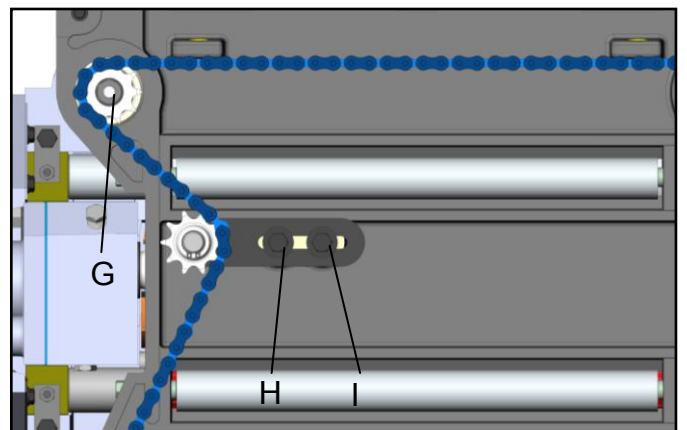

Fig. 28
2. If cutterhead is not parallel to table, tilt planer on its side, Fig. 28. Remove bolt (H) and loosen bolt (I), which will allow you to move the idler sprocket far enough to release tension on the chain, Fig. 29. Remove chain from sprocket on end of cutterhead that must be adjusted. In this case chain has been removed from sprocket.
3. Turn sprocket (G, Fig. 28) by hand to bring that corner into adjustment with other three corners.